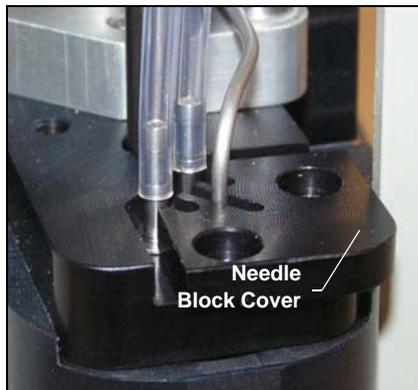

Figure 5-23. Removing the Needle Block Cover
4. Slide the cover of the needle block to the front and right, away from the needle (see Figure 5-23). Remove the cover.